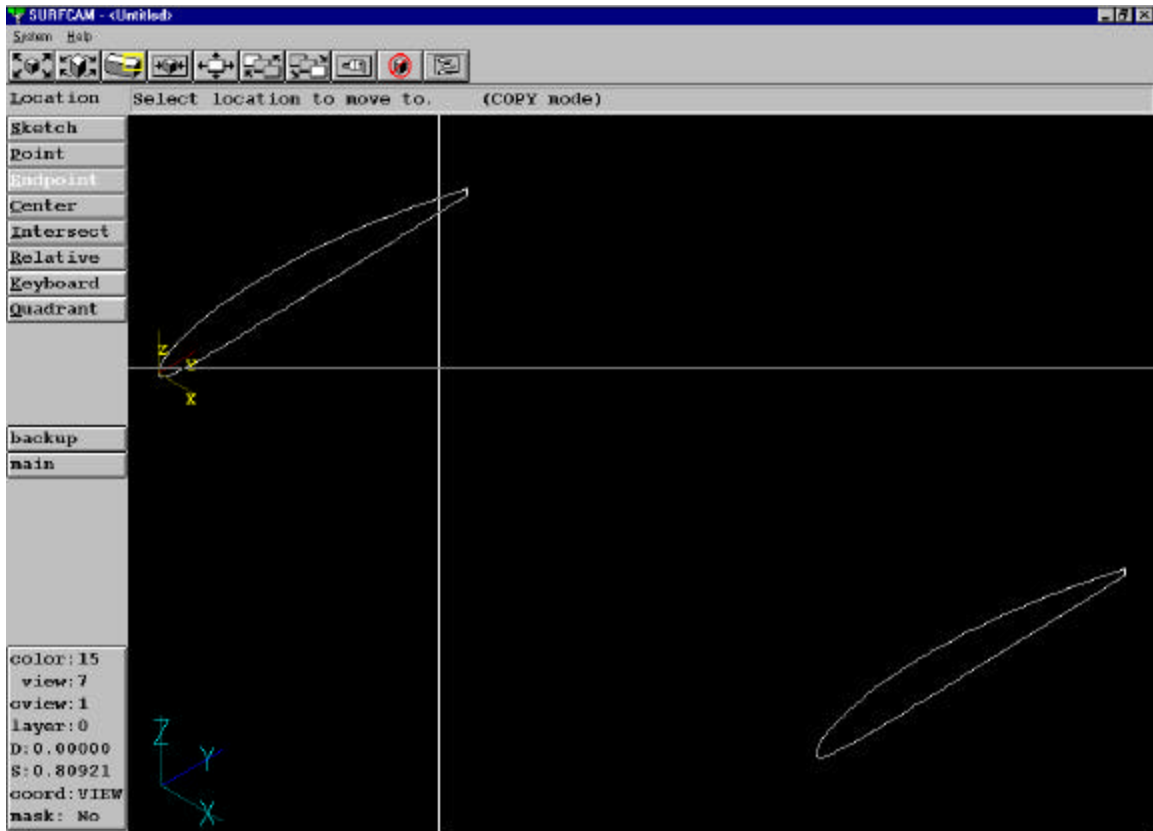

Figure 10: Frame of wing after copying airfoil to second location
- 9.) When prompted for the 'location to move to', click KEYBOARD. Using X, Y, and Z coordinates in the box, input the new location for the leading edge point on the other section of the wing. At this prompt enter 10 for X, 0 for Y, and 0 for Z. The airfoil should appear with the nose at the appropriately specified location. The basic skeleton has been created for a wing planform in SurfCAM. Figure 10 shows the current layout of the wing.